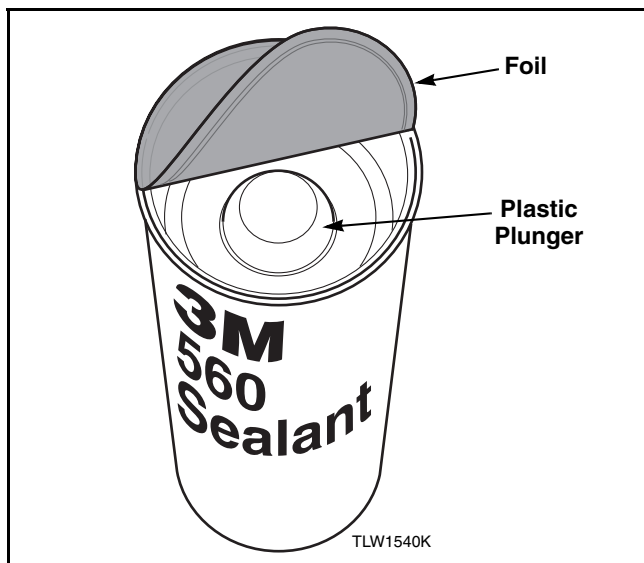

Figure 55
- Remove bottom foil from No. 200996 Sealant (3M-560). Refer to Figure 55.
- When putting sealant tube in caulking gun, take plastic plunger found in sealant tube and place upright in center of tube making sure caulking gun pushes on plunger. Refer to Figure 55.